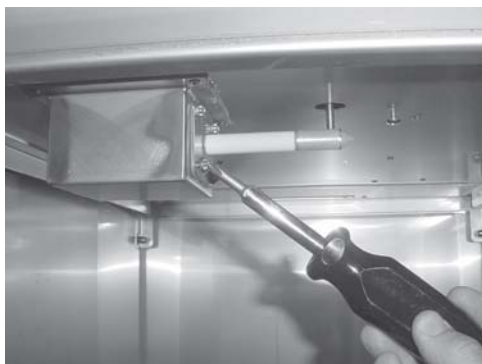

Figure 3-2
3. Using a Phillip’s head screwdriver, remove the 4 screws securing the sensor to the box. Figure 3-2.